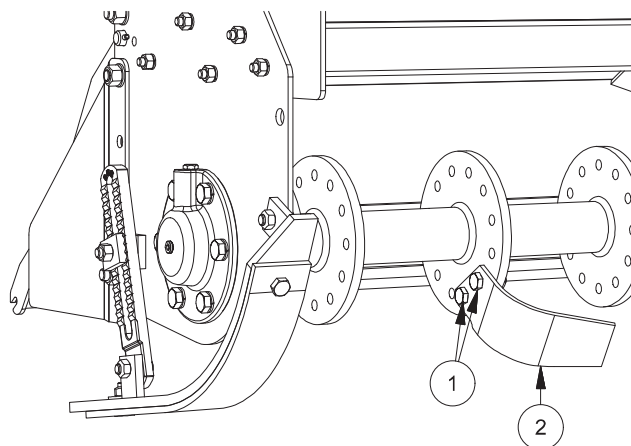

FIG. 32
- Loosen the two bolts (1, “Fig. 32”).
- Remove the hoe (2)